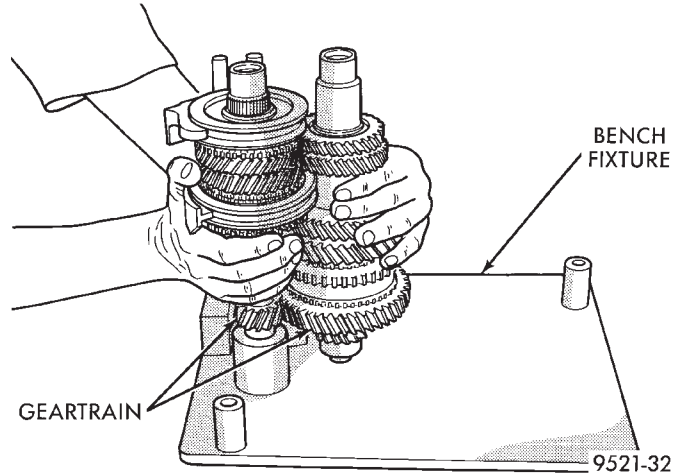

Fig. 66 Bench Fixture
(1) Verify bench fixture shims are removed from bench fixture. Install output and input shafts into bench fixture (Miller tool #6785) (Fig. 66).